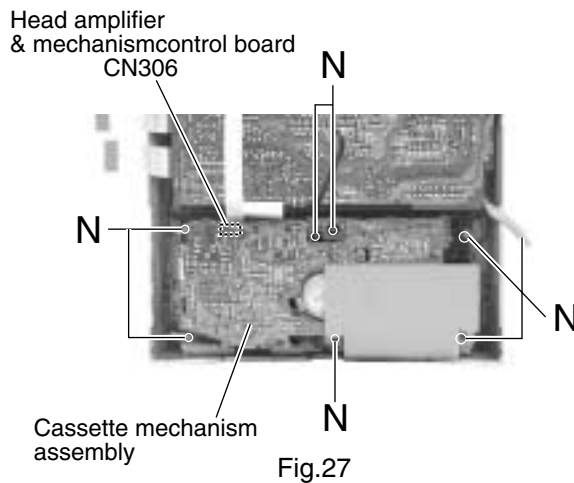

Fig.27
■ Removing the cassette mechanism assembly (See Fig.27)